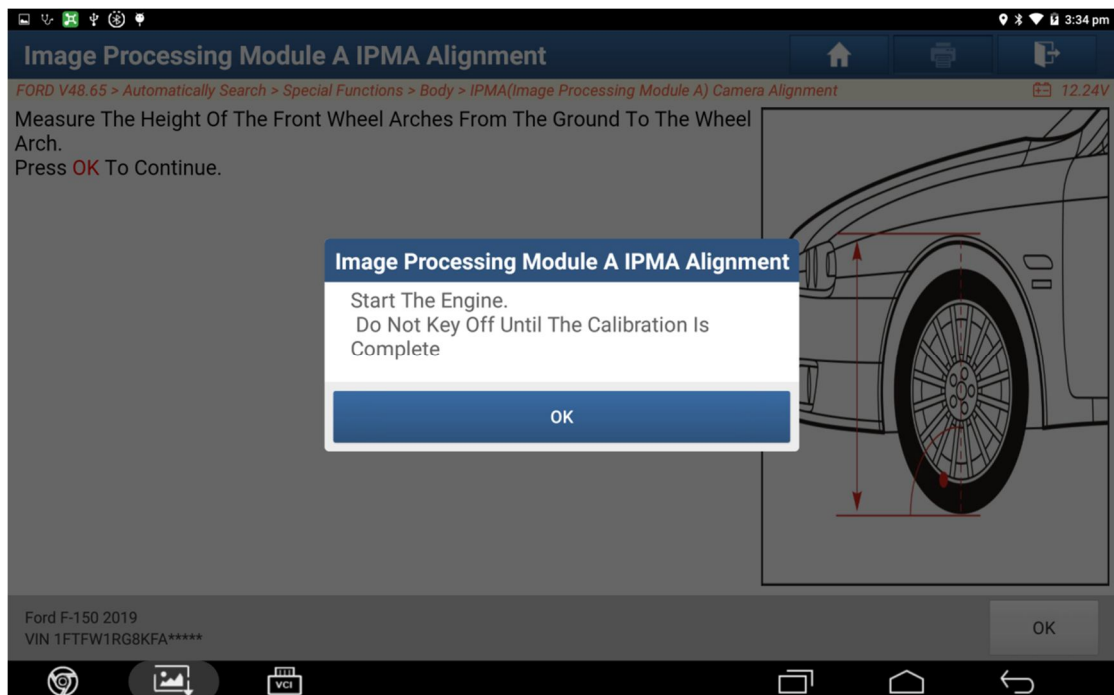

Figure 15
13. Prompt to start engine, do not switch ignition OFF before the calibration is completed, vehicles with intelligent Start/Stop function need to manually turn off the Start/Stop function (Figure 15).